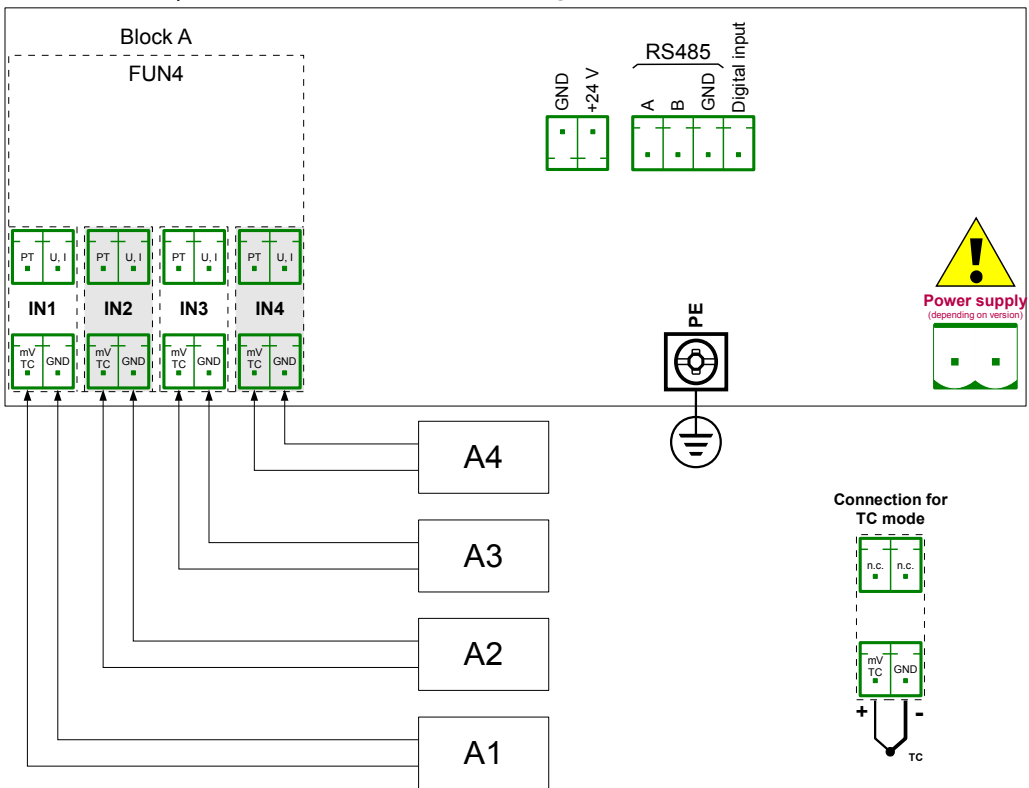

Fig. 7.68. Schematic diagram for the **FUN4** hardware configuration
Before measuring temperature the thermocouple sensors should be connected to the device. An example of the connection is shown in **Fig. 7.68**.
- Source parameter set as **Inp. A1: Universal** (see the connection in **Fig. 7.68**),
- **Source** parameter set as **Source - Inp. A2: Universal** (see Fig. 7.68),
- Source parameter set as **Source - Inp. A3: Universal** (see Fig. 7.68),
- Source parameter set as **Source - Inp. A4: Universal** (see Fig. 7.68),